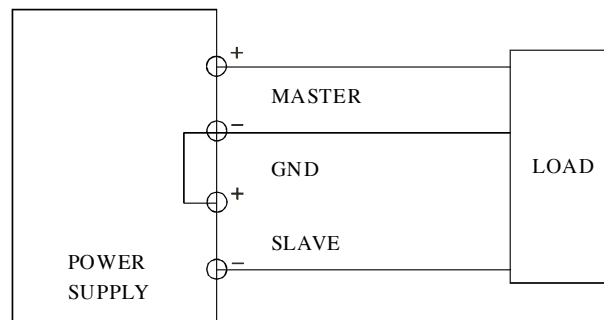

Fig.4-4 Positive and Negative Supply.
A. Positive and Negative supply (Fig.4-4).
If the chassis or common of the equipment being powered is separate from both positive and negative polarity power inputs. The output of the SLAVE (negative) supply is tracing the output of the MASTER (positive) supply. The configuration is shown in Fig. 4-4.